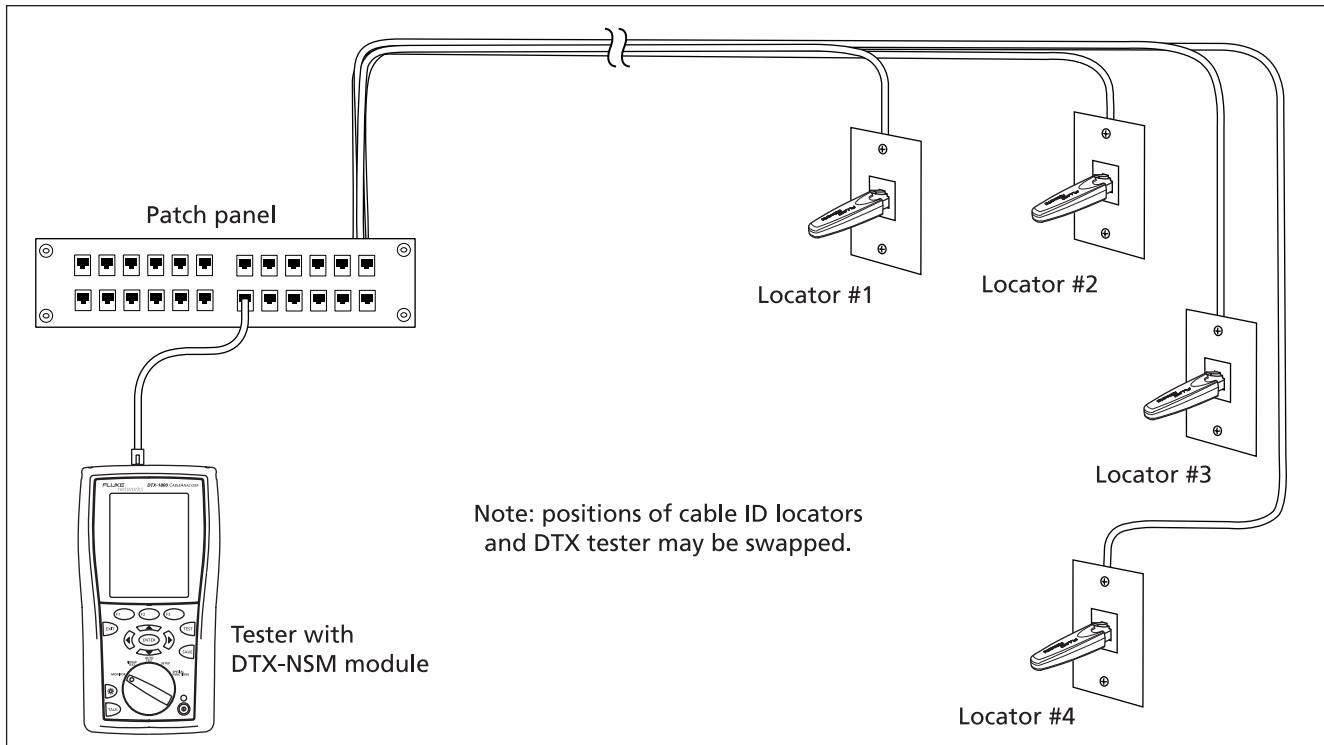

Figure 28. Identifying Links with Optional LinkRunner Cable ID Locators
- 1 Connect the tester and ID locator(s) as shown in Figure 28.